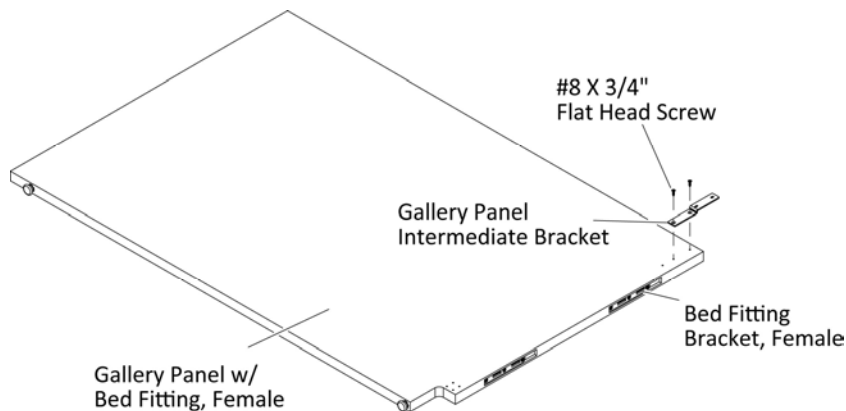

Figure 3
- 5. Position and align holes in gallery panel intermediate bracket to pre-drilled holes in gallery panel with female bed fitting bracket, (Figure 3).